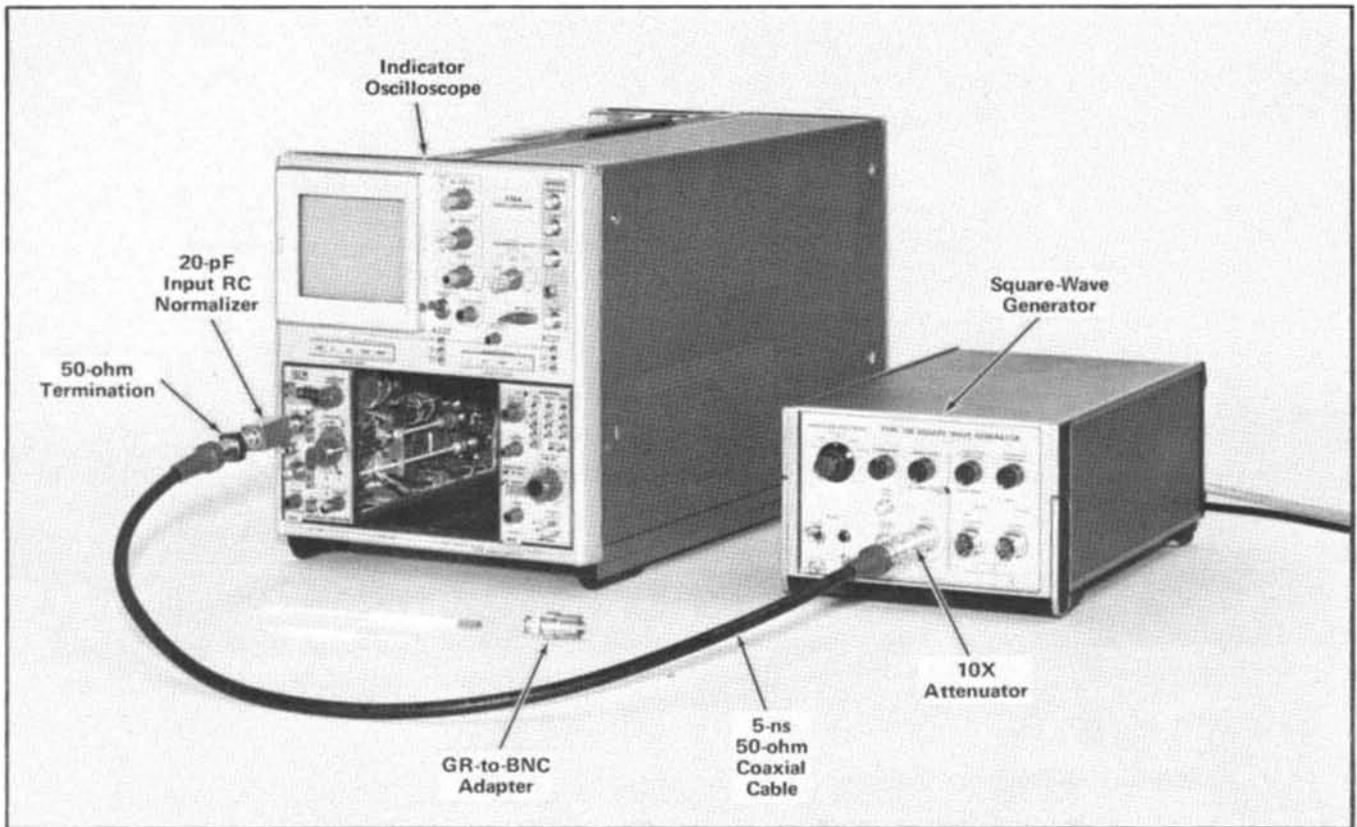

Fig. 5-16. Equipment required when performing steps 18 and 19.
a. Test equipment setup, with connections made at completion of step 18c, is shown in Fig. 5-16.
c. Insert the 50-ohm termination in place of the GR-to-BNC adapter. Reconnect the 10× attenuator between the coaxial cable and Type 106 Output connector. This is the same setup as shown in Fig. 5-16 except the signal is applied to the —INPUT connector.